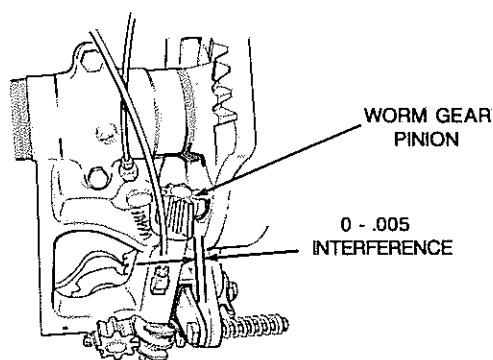

Fig. 28
1. Both flat surfaces of the knotter bill hook and worm gear pinions must be held flat with 0 to .005 interference (when assembled with new parts) on the smooth face of the cam gears, see Fig. 28.